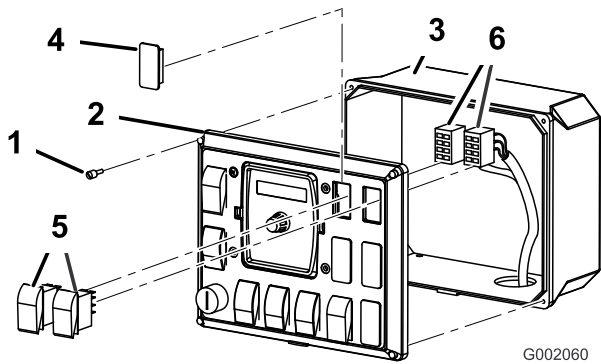

Figure 26
1. Loosen the 4 screws securing the front panel to the control box (Figure 26).
2. Remove the front panel expose the inside of the control box (Figure 26).
3. Lift and remove the 2 plugs from the spray control panel on the vehicle and install the 2 rocker switches provided in their place (Figure 26).